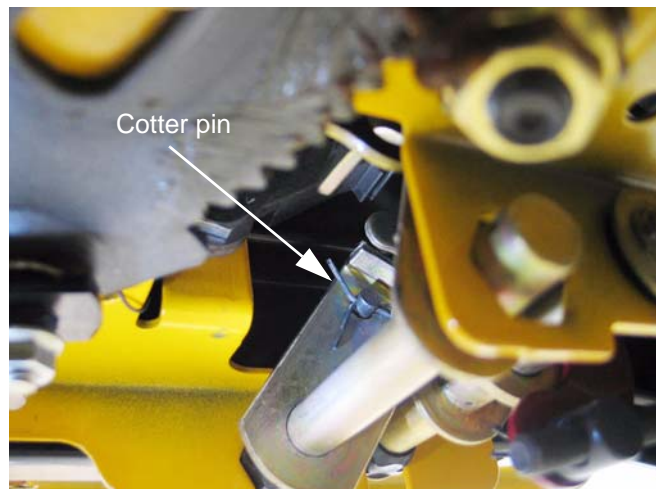

Figure 32.33
32.33. The brake rod must be disconnected to remove the outboard brake pedal shaft bushing. Remove and discard the cotter pin that holds the brake rod to the brake pedal shaft. See Figure 32.33.